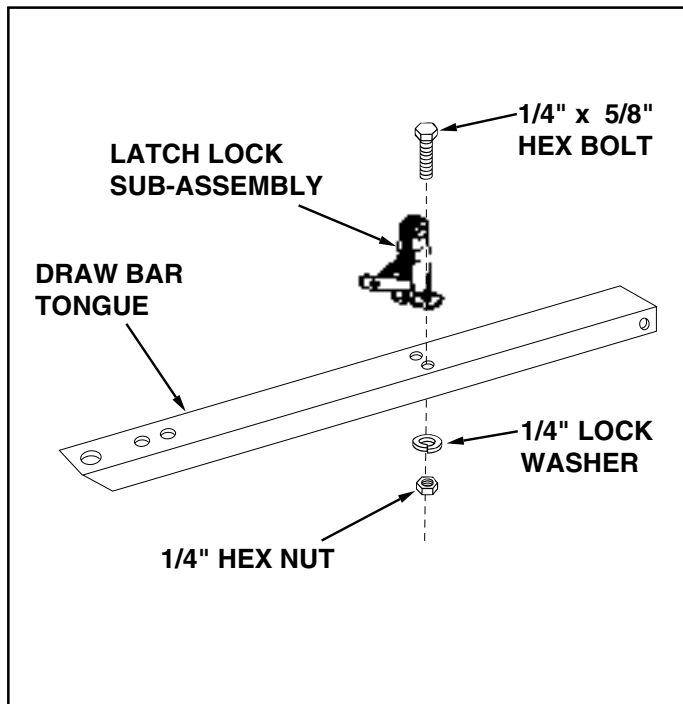

FIGURE 9
14. Assemble latch lock subassembly to drawbar tongue using two 1/4" x 5/8" long hex bolts, lock washers and hex nuts. **Tighten.** See figure 9.